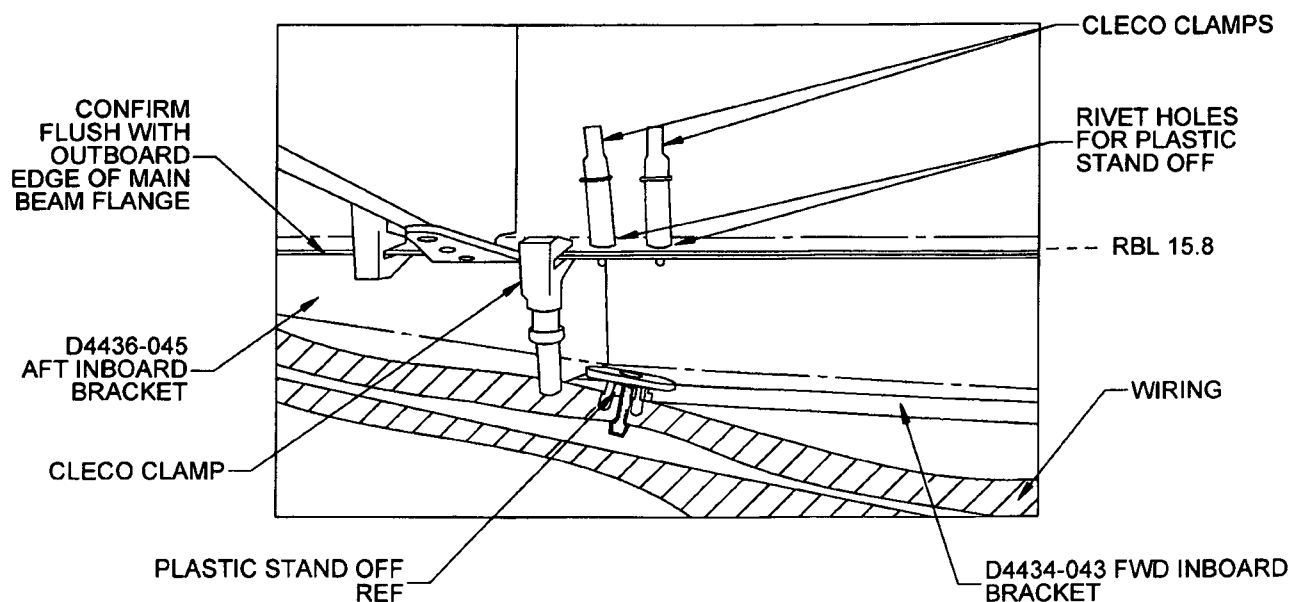
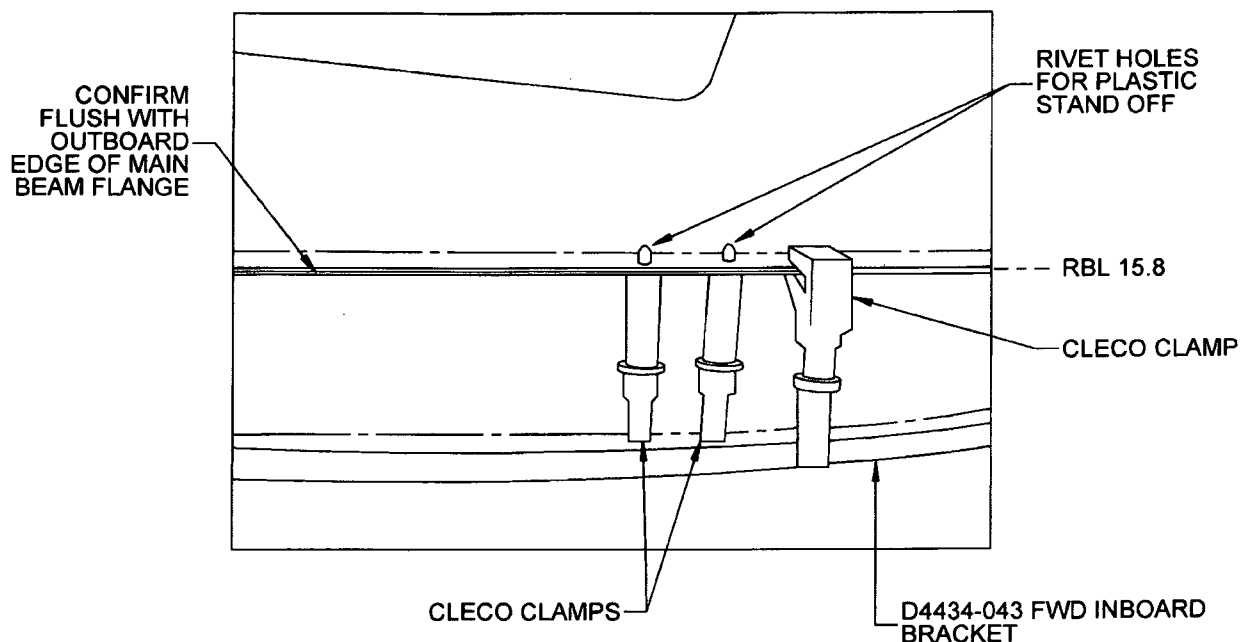

Figure 7. D4434-043 & D4436-045 Brackets Installation
Figure 8. D4434-043 Fwd Inboard Bracket Installation
- 4.4 Drill off rivets holding plastic wire bundle stand offs. Transfer drill $\varnothing 0.144$ holes to D4436-045 Aft Inboard Bracket per Figure 6. Transfer drill 2 x $\varnothing 0.144$ holes to D4434-043 Fwd Inboard Bracket per Figure 7. Transfer drill 2 x $\varnothing 0.144$ holes for D4434-043 Fwd Inboard Bracket per Figure 8. Before drilling confirm the D4434-043 and D4436-045 brackets are flush with outboard edge of main beam flange. Assemble D4436-045 Aft Inboard Bracket and D4434-043 Fwd Inboard Bracket and wire bundle stand offs to main beam flange using MS35206-229 screw, NAS1149FN616P washer and MS21042L06 nut.